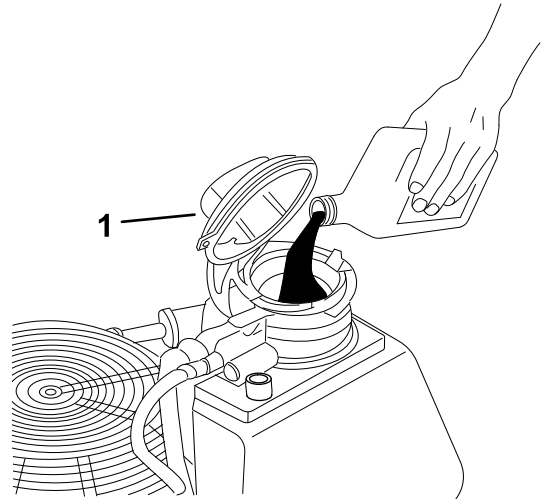

Figure 46
7. If the oil level is low, open the oil-fill cap (Figure 46).